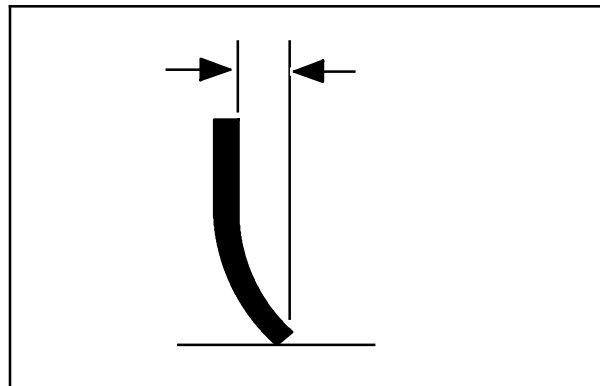

FIG. 13
2. Look at the amount of deflection or “curl” of the squeegee blade. The correct amount of deflection is 12 mm (0.50 in) for scrubbing smooth floors and 15 mm (0.62 in) for rough floors. (Fig. 13)